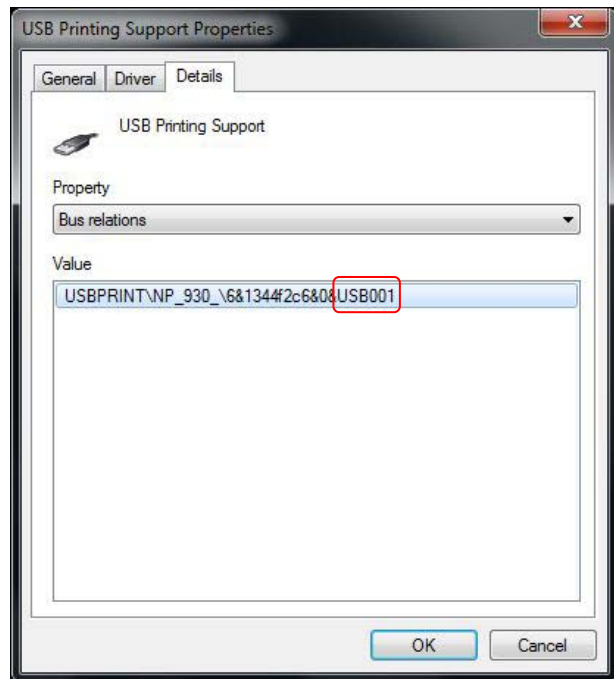

Figure 59: Device Properties - Details
- In the entry under "Value" the USB port number is shown. In the sample in Figure 59 the USB port number is "USB001"